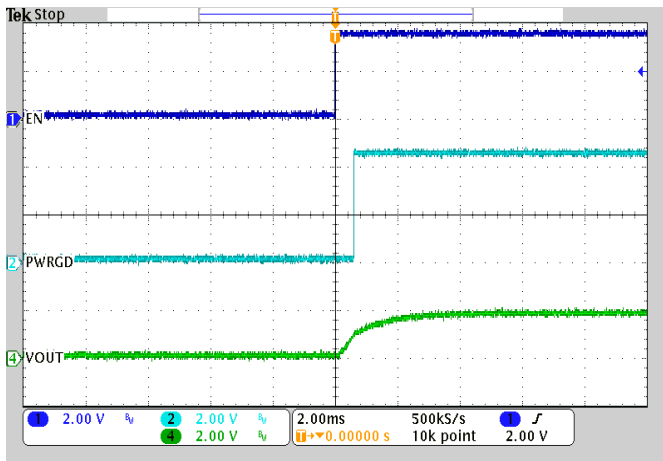
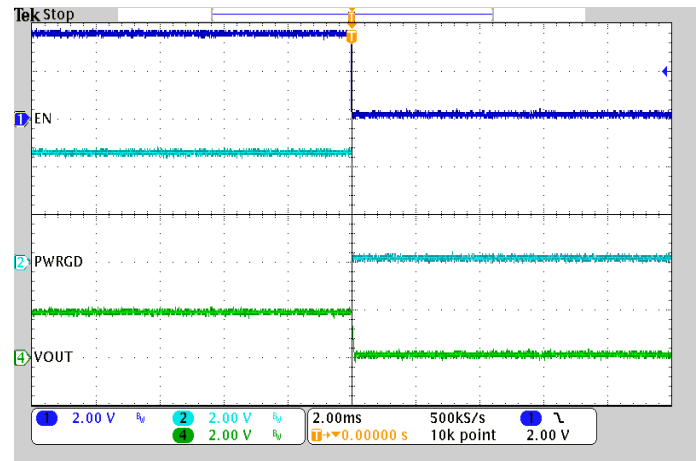

Fig. 17 Enable Turn-On for SPM1006 (set to 1.8V, with $I_{OUT} = 6A$)
Fig. 18 Enable Turn-Off for SPM1006 (set to 1.8V, with $I_{OUT} = 6A$)
Fig. 17 and Fig. 18 show the typical output voltage waveforms when SPM1006 is turned on and turned off by the EN pin. In these figures, the top trace is enable signal (EN), the middle trace is Power Good signal (PWRGD), and the bottom trace is the output voltage.